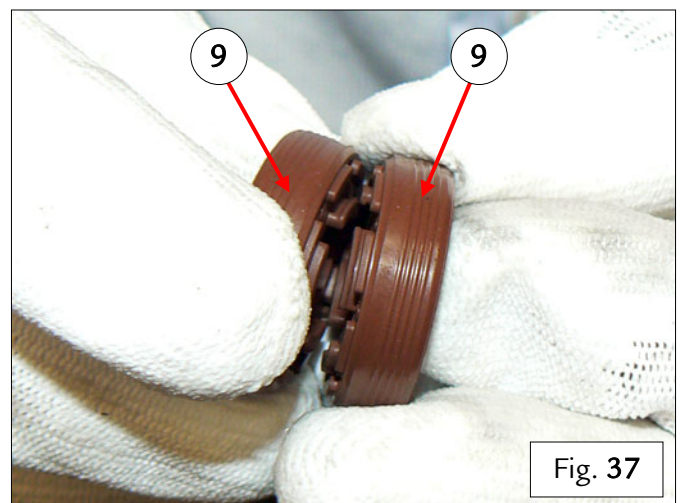

Fig. 37
- Assemble the new seals (9) together – Fig. 37.